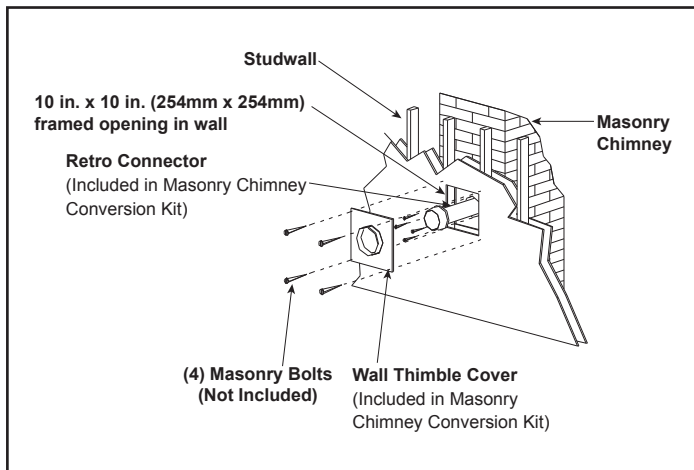
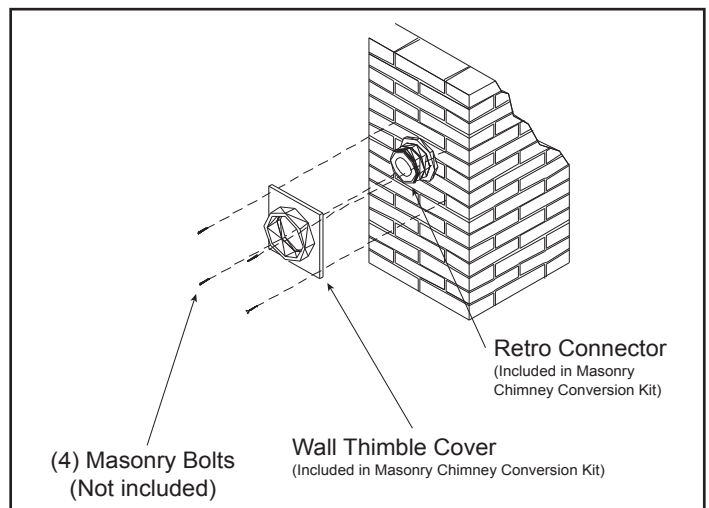

Figure 4.14
Figure 4.19
2. Once the center point of the penetration has been determined, cut a 6 in. (152mm) diameter hole in the masonry. If the hole is too large, the retro connector might not mount properly; if the hole is too small, the appliance might starve for intake air. If there is a frame wall in front of the masonry wall, cut and frame a 10 in. (254mm) square opening in the wall (centered around the 6 in. (152mm) masonry opening). If there is sheet rock only (no studs) in front of the masonry the 10 in. (254mm) opening is still needed, but does not need to be framed. If the hole is framed a wall thimble is required. This allows the retro connector to mount directly on the masonry and provide the correct clearances to combustibles. See Figure 4.14.
- Slide wall thimble cover over retro connector and secure with masonry bolts. See Figure 4.19. If you have a framed wall in front of the masonry, use wood screws to mount wall thimble cover to framed wall, over retro connector and 10 in. (254mm) square framed opening. See Figure 4.14. If needed, add a section of direct vent pipe to the retro connector in order to extend through the opening in the wall thimble cover.